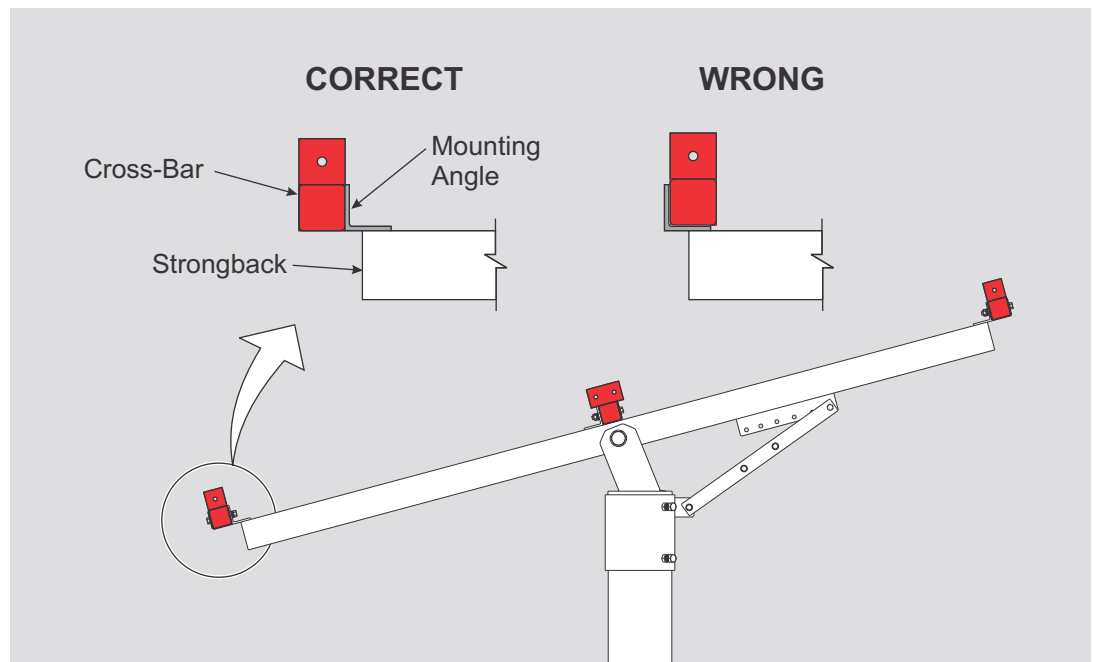

Figure 3-2: Cross-Bar Positioning relative to Mounting Angles
Cross-Bars are mounted to the outside of the Strongback mounting angles (these are welded to the Strongback); they are not nested into the Mounting Angles. (See Figure 3-2)
- C. Follow these steps to install the center and north most Cross-Bars to the Strongback. Refer to Figure 3-2 as needed for proper positioning.